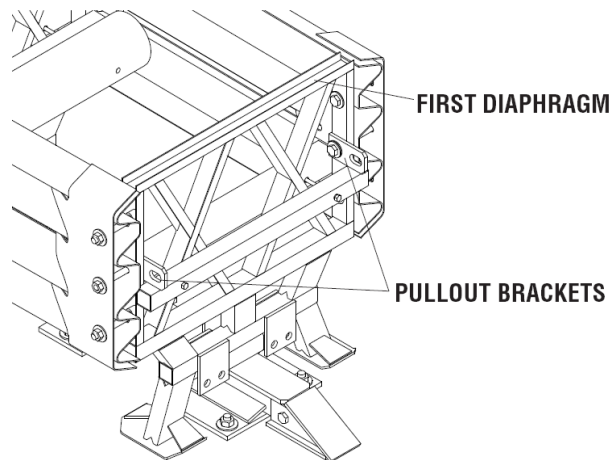

Figure 73
- 6) Attach 3/8" [10 mm] grade 40 chain to Pullout Brackets on first Diaphragm (Figure 73). Attach both ends of chain to a heavy vehicle (such as a 1 ton pickup).